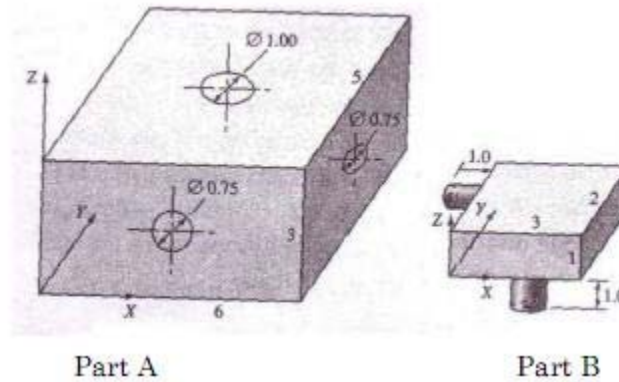

Fig. 1
6. Fig. 1 shows a pin and a block with their MCSs. The pin and the instances to be assembled into the hole in the block. Use WCS and write the transformation matrices to merge the three instances of B into A.